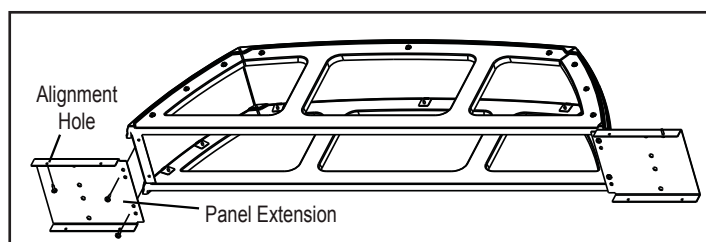

Figure 20.5
6. Attach the hearth support's panel extensions. Figure 20.5